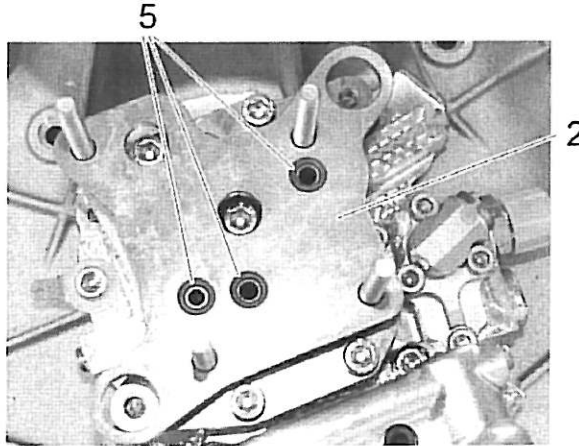

Figure 15
10. Fit one O-ring (item 5) to each of the three designated place at the vibration isolator (item 2). See Figure 15.